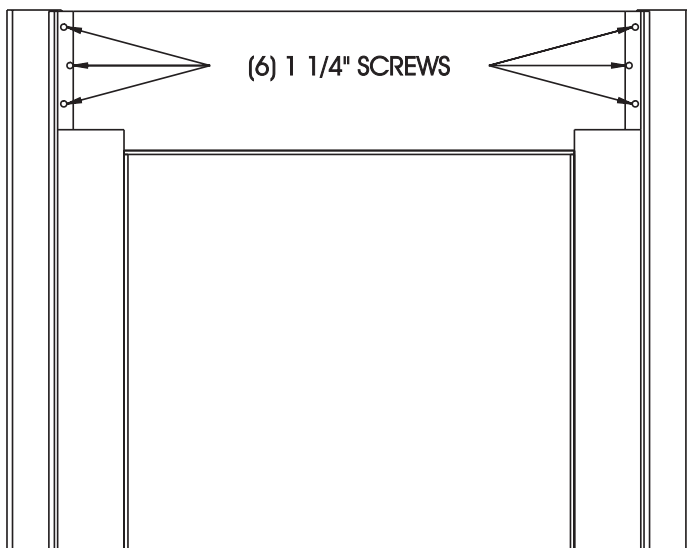

Figure 2
3. Use six (6) 1-1/4" screws to attach mantel sides to breastboard (See Figure 2).